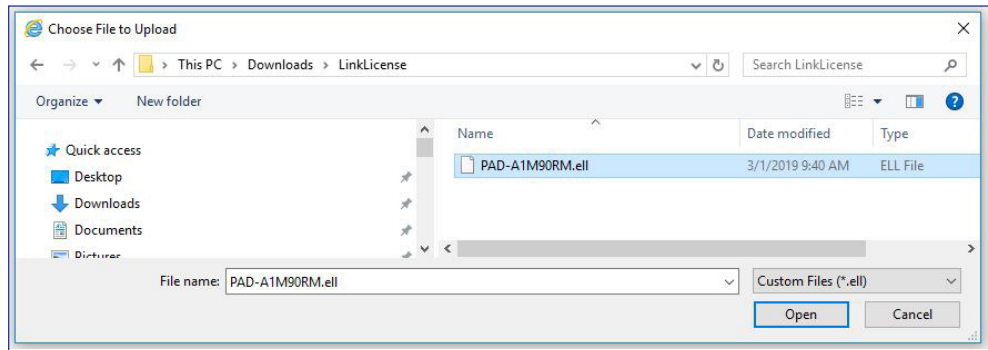

Figure 60. Explorer Window
1. On the **LinkLicense** panel (see below), click **Select File**. This opens an Explorer window (see figure 60 on the next page).
2. Browse to the location of the LinkLicense and select the LinkLicense file with .ell file extensions (see figure 60).